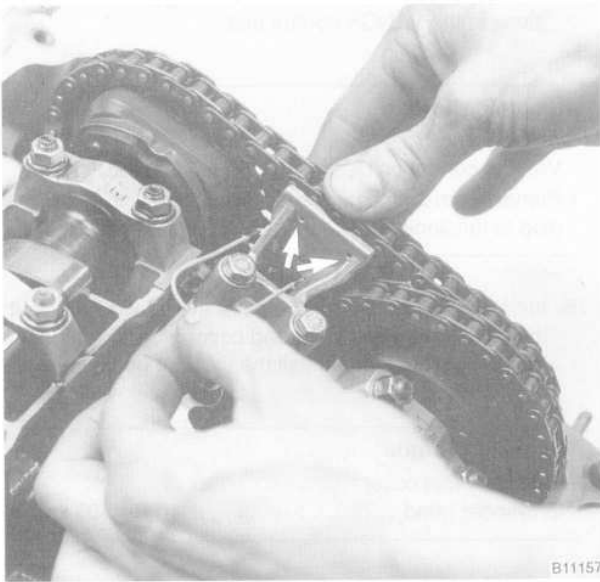

Fig. 39. Secondary timing chain tensioner being locked down. Press tensioner down and insert locking wire through holes (arrow).
10. Depress the secondary timing chain tensioner and lock it down by inserting a stiff piece of wire into the holes in the tensioner as shown in Fig. 39.